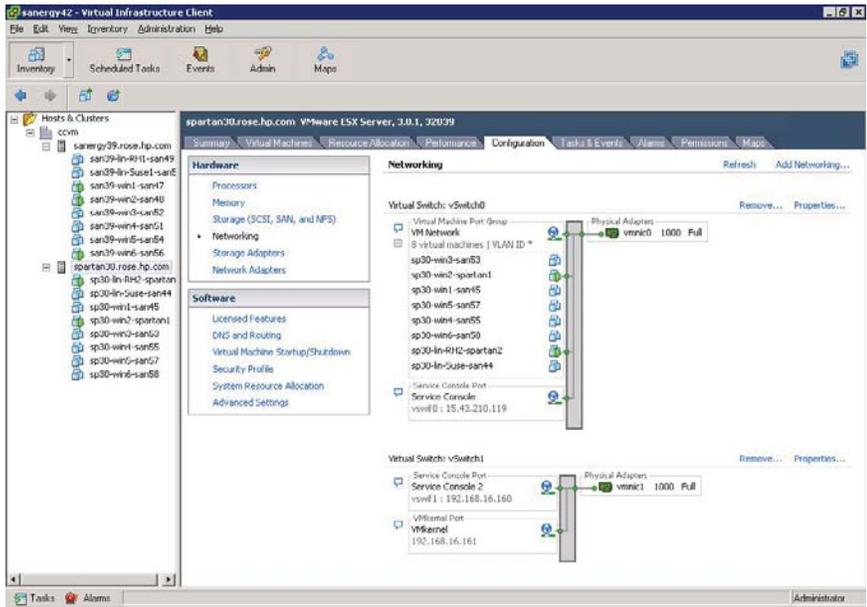

Figure 37 Configuration tab
2. Configure the VMkernel TCP/IP networking stack for iSCSI support. Configure the VMkernel, service console with dedicated virtual switch with a dedicated NIC for iSCSI data traffic. Follow the instructions from VMware. Figure 37 shows an example of a configuration.